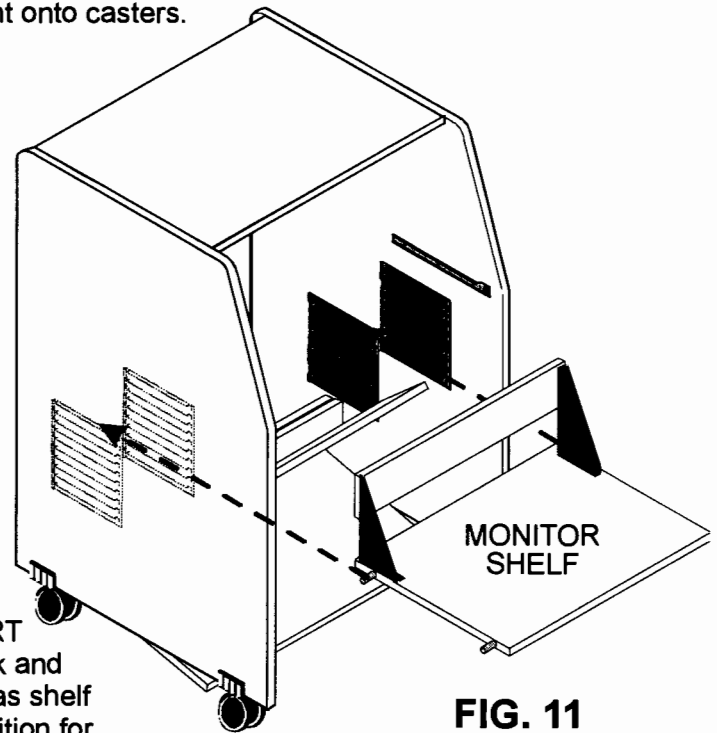

FIG. 11
Align and attach MONITOR SHELF onto MONITOR SUPPORT TRACKS (P) FIG. 11 Engage pins on edge of panel into track and slide back. Lift slightly to engage in second set of TRACKS as shelf is pushed in. MONITOR SHELF may be left in horizontal position for loading monitor onto shelf.